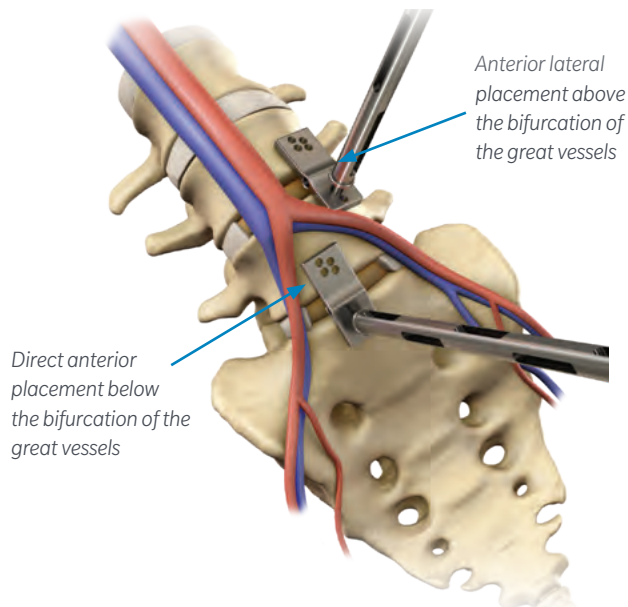

Figure 4:
- When placed flat against the spine, the plate sizer assists in visually selecting the appropriate length trinica plate. Attach the appropriate plate sizer to the plate holder using the hole in the middle of the plate sizer. Position the plate sizer so the bottom hole is positioned on the inferior vertebral body. Visually confirm which hole on the opposite end of the plate sizer would be the best location for the superior screws (Figure 4).